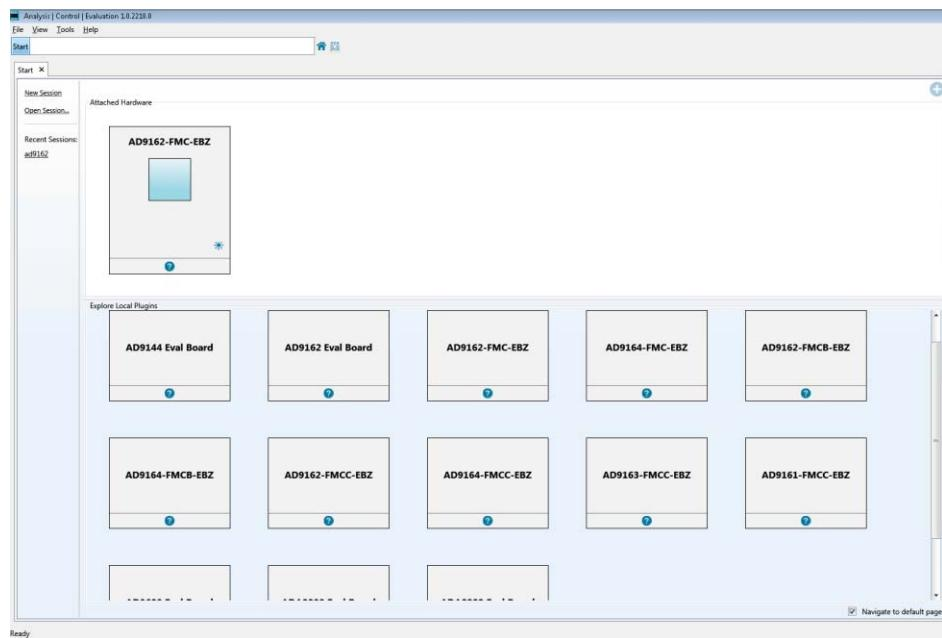

Figure 13. The entry screen of the ACE SPI programmer software
1. Open the ACE software, which is located in Start->Programs->Analog Devices->ACE->ACE. The screen will appear similar to Figure 13 as below. ACE is the software that is used to load the registers in the AD9162. The ACE software enables full access to the AD9162 register map, and also has several views and features that simplify its use. Many of the ACE software features will be covered in the ACE Software User’s Guide. This section will focus on what is necessary to start-up the AD9162 in JESD mode.